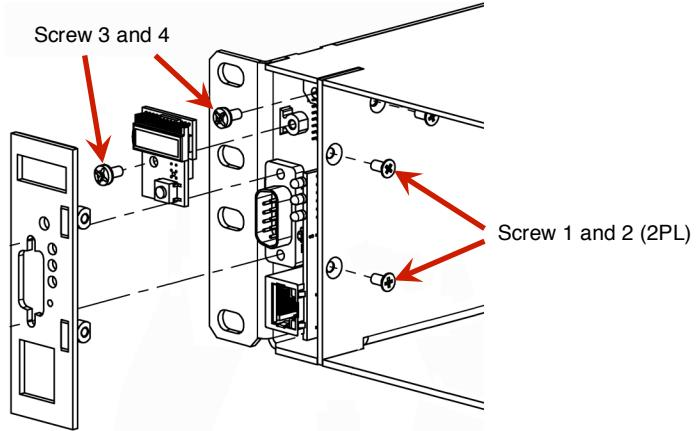

Figure 12–Showing CXCI (original design) replacement detail
8. Remove four (4) mounting screws from the CXCI (Figure 12). The first two screws will release the front panel from the controller circuit board to expose the third screw that releases the LCD circuit board. Carefully remove the LCD board to expose the fourth and final screw to release the remains of the CXCI.